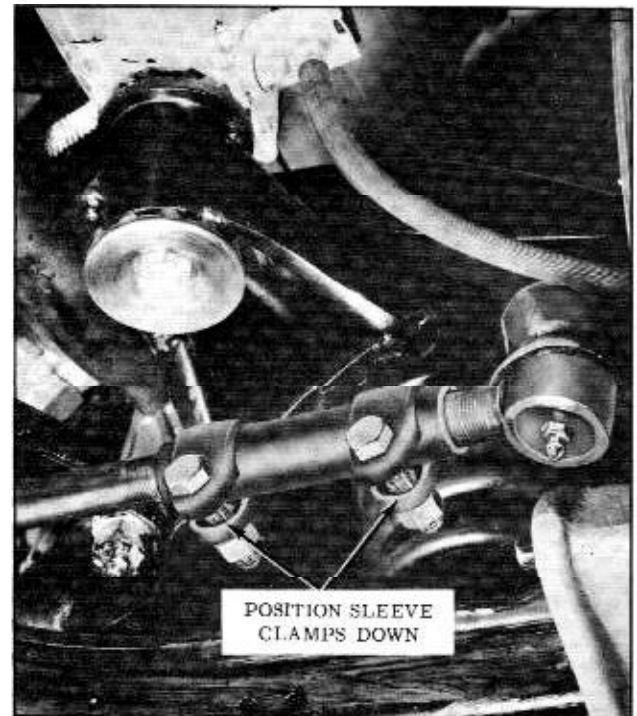

Fig. 5-18 Adjusting Clamp Position
3. When adjustment has been completed according to the recommended specification, and tie rod and ball studs are riding squarely in their seats, position tie rods to relay rod ball studs to the bottom of the slot in the relay. Position inner clamps as shown in Fig. 5-18. Torque nut 20-25 ft. lbs.